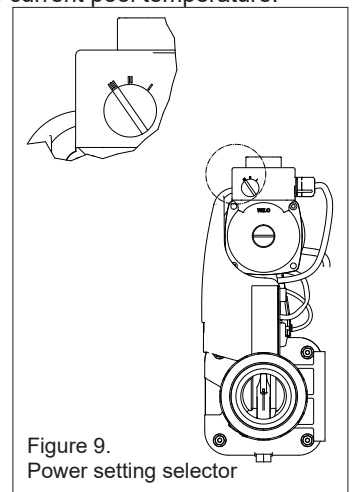

Figure 9.
3. Set the highest power output on the Aqua-Mex FE circulation pump (by turning the handle to position III), see figure 9.
5. Start the unit by pressing the on/off button (C).
In order to achieve the highest power output, the circulation pump is set at its highest power setting see figure 9.